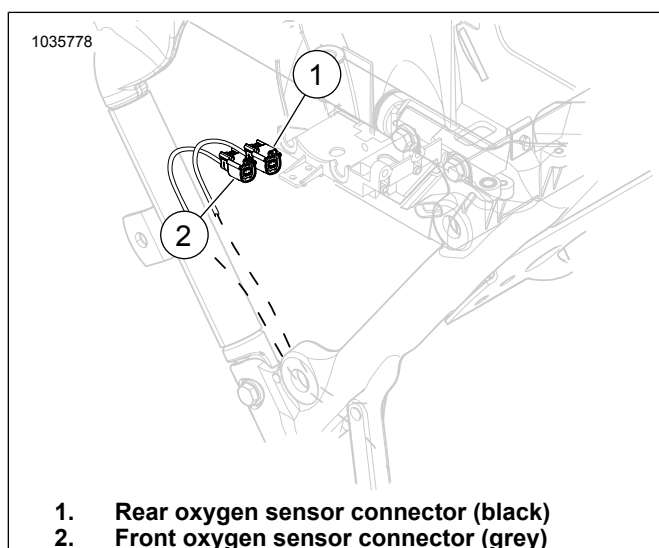

Figure 10. Front and Rear Oxygen Sensor Location
See Figure 10. Disconnect front (2) and rear (1) oxygen sensor connectors.